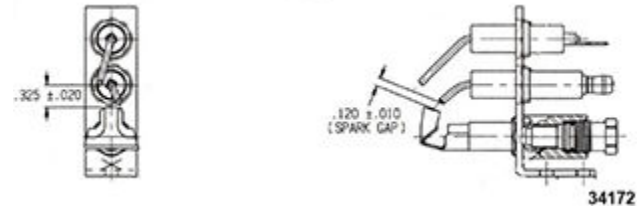

Fig. 130
- Spark gap between electrode and pilot burner head should be 0.120 in. $\pm$ 0.010 in (Fig. 130), approximately 1/8".